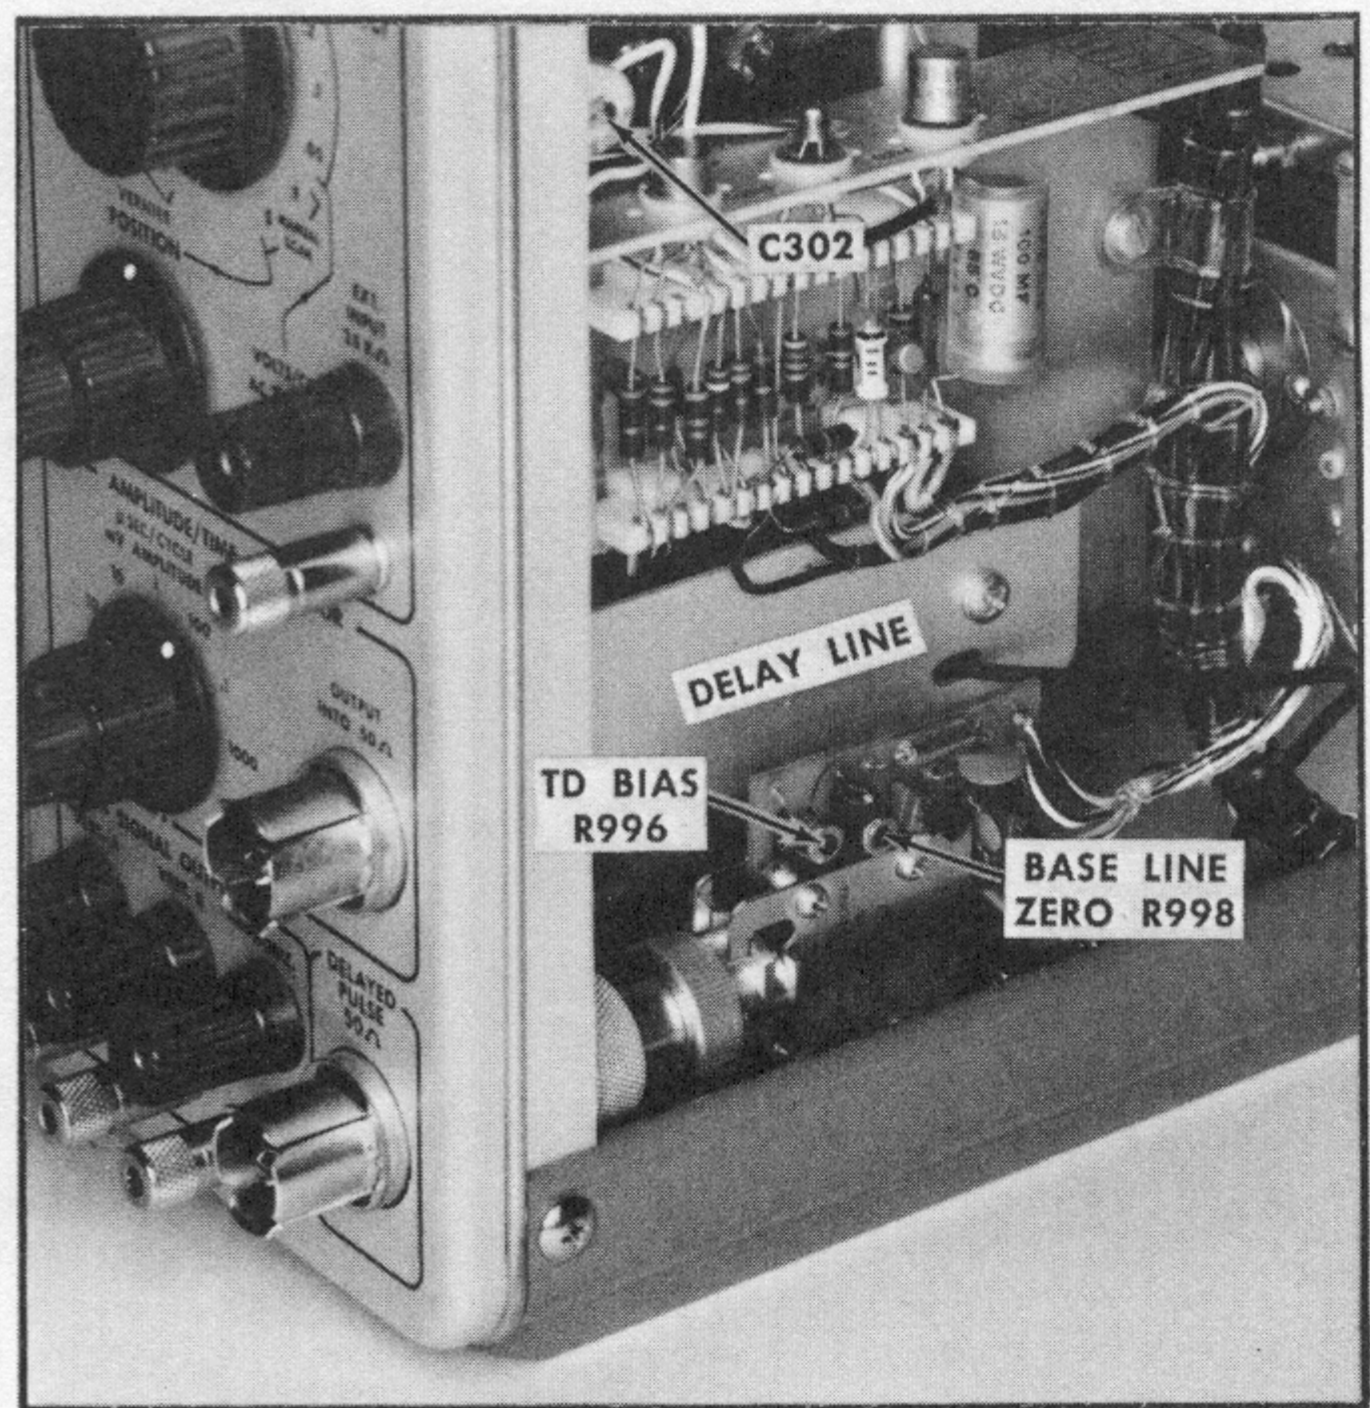
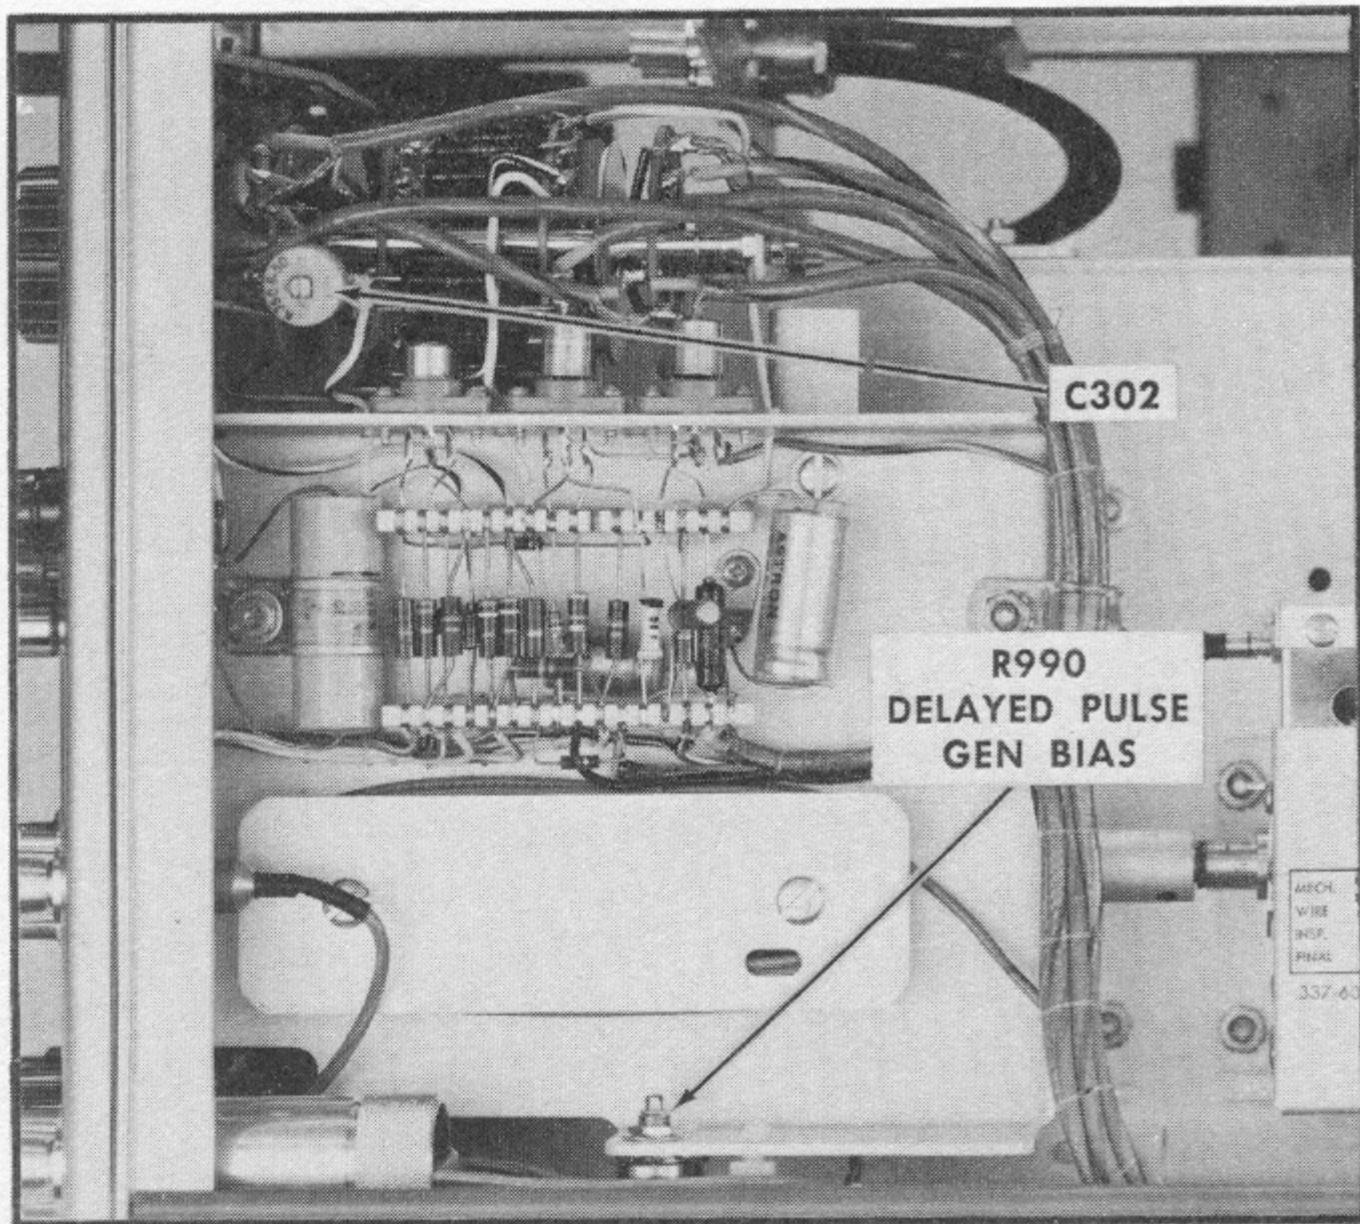

Fig. 6-22. Location of adjustments in instruments SN 3460-up for steps 22A and 24.
Fig. 6-23. Location of adjustments up to SN 3459 for steps 22B and 24.
d. Adjust R990, the DELAYED PULSE GEN BIAS control (see Fig. 6-22 and Fig. 6-23), for a stable, negative step with the least amount of noise (see Fig. 6-29, risetime measurement, for the desired display). Minimum noise occurs as R990 is turned clockwise and at a control position just a few degrees before an unstable display occurs.
24. Adjust Horizontal Amplifier Input Compensation ①
b. Adjust C302 (see Fig. 6-23) for minimum tail at the left of each dot.